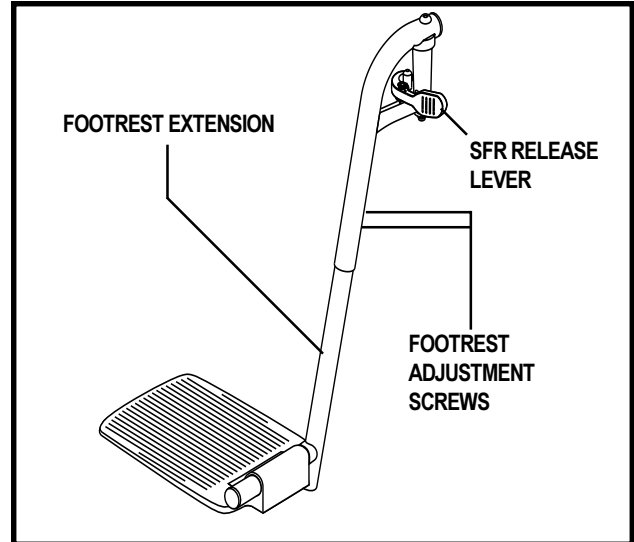

Figure 22. Swing-away Footrest Adjustment
1. Push in the release lever. See figure 22.
1. Remove the two adjustment screws from the side of each footrest extension. See figure 22.